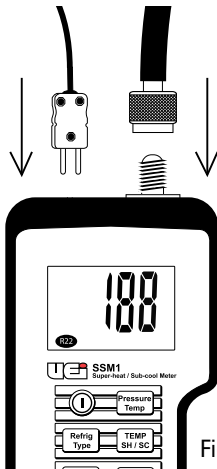

Fig. 1
1. Connect a standard refrigerant hose to the 1/4" flare connector on top of the SSM1. (Fig.1) -OR- Connect the SSM1 in-line to a refrigerant source using the tee fitting (Fig.2)
2. Connect the included pipe clamp probe to the k-type input jack on top of the SSM1. (Fig. 1)